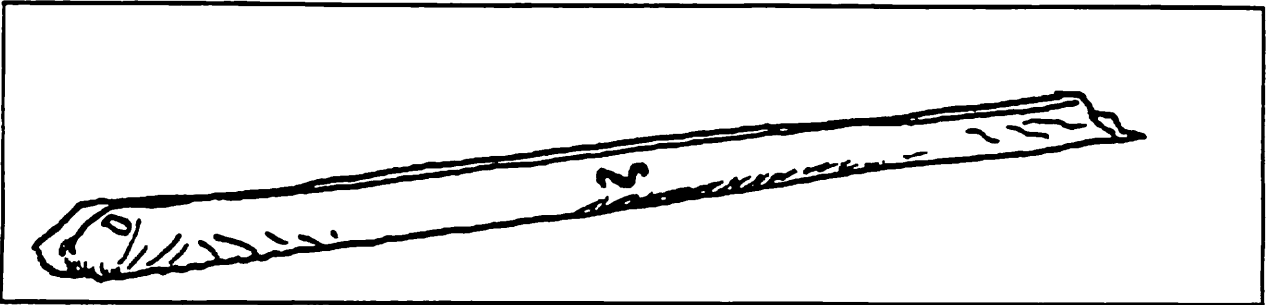

Figure 3
1) With the glider in the bag, lay the glider on the ground, zipper up with the nose into the wind. (Figure 3)